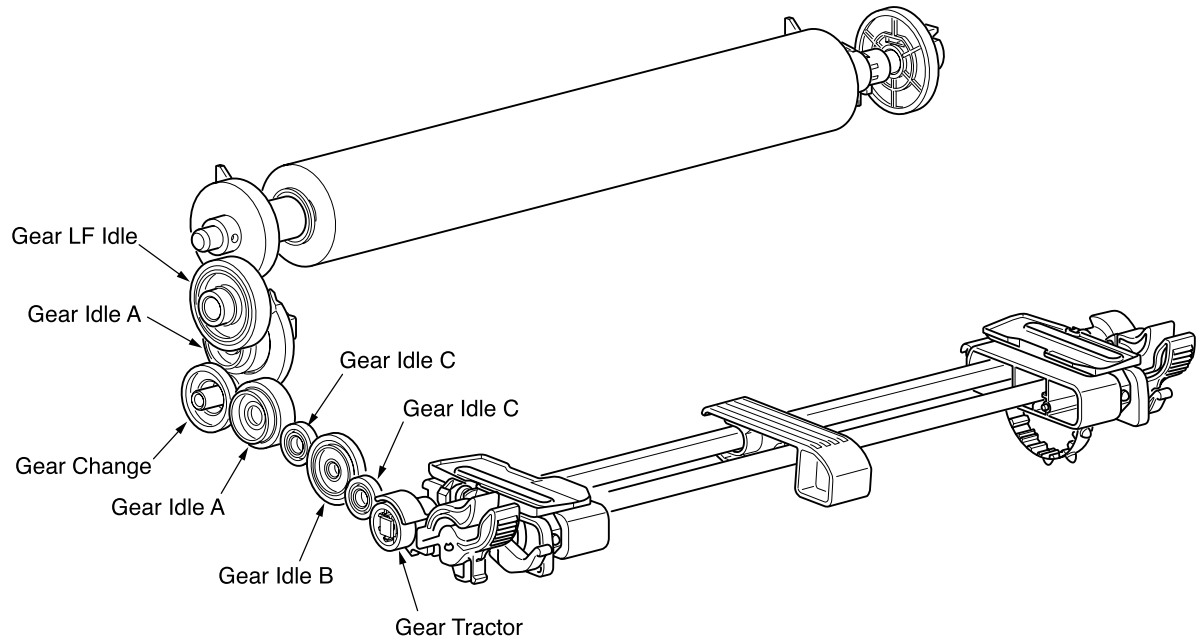

Figure 2-10
(4) Continuous paper feed operation (FRONT)(See Figure 2-10.)